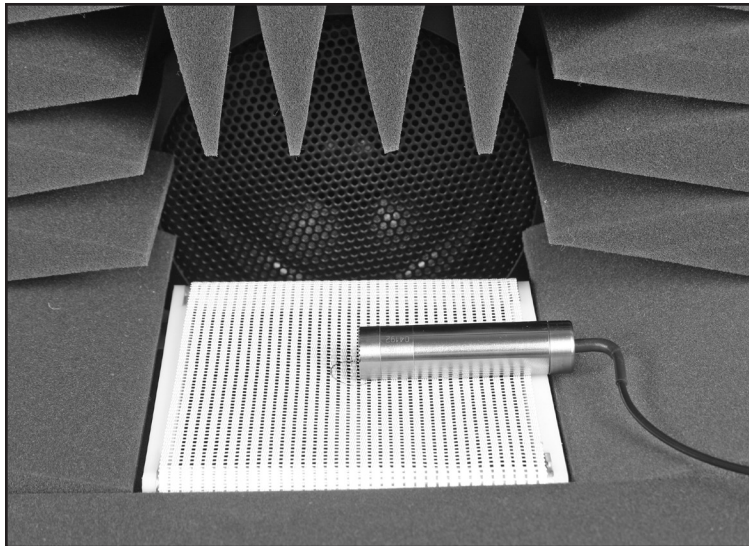

Figure 3.2.2—Leveling the 8120 Polar Plot Sound Chamber with the removable test surface
3. Place the microphone on the test surface with the microphone grill over the reference point at a 90° angle to the speaker in the back of the chamber (Figure 3.2.2). Close and latch the sound chamber lid.